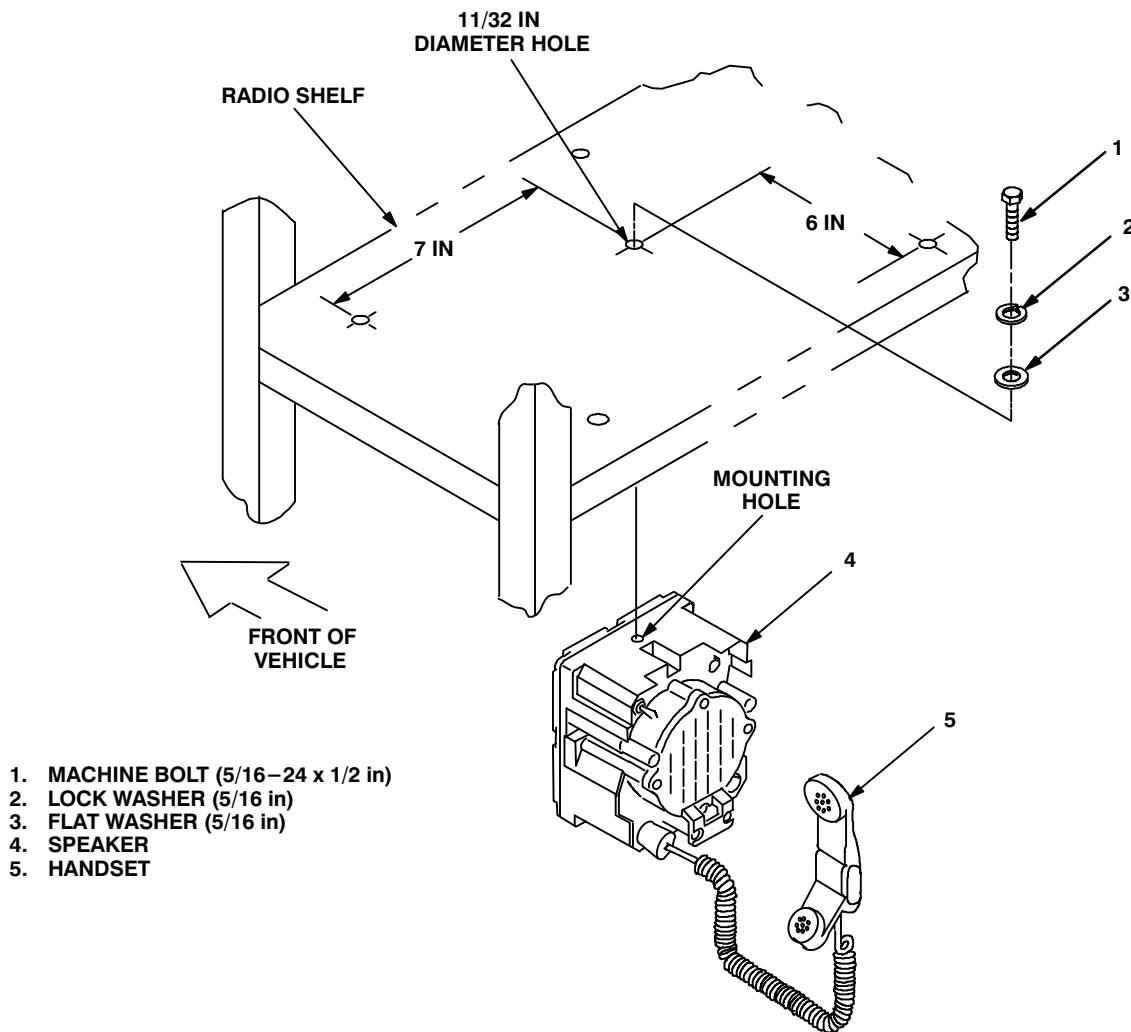

Figure 5–4. Rear Speaker Installation: Communications Rack
a. Mounting base (1) and existing radio shelf.	Remove a 2” area of paint on the underside of mounting base (1) around left front and rear mounting holes. Remove a 2” square area of paint on the existing mounting holes that mate with left front and rear mounting holes of mounting base (1). Clean the paint removed areas and apply a thin coat of conductive anti–seize compound.	Tools: Electric grinder or equivalent.
b. Mounting base (1).	Place on radio shelf. See Figure 5–5.
c. Two outer thumbscrews (4).	Turn ccw until both sets of threads have cleared center of holes.
d. Mounting base (1).	Align four holes and rear slot with matching hole pattern in shelf.
e. Five machine bolts (6), ten internal/external–toothed (IET) washers (3) and five nuts.	Install and secure to mounting base (1) and shelf..	Tools: 1/2 in socket and 1/2 in open/box wrench.
f. Two outer thumbscrews (4).	Tighten and secure to rim clenching clamps (5) and mounting base (1).
c. RF cable (12).	Route up side and behind communication rack to rear of mounting base (11). See figure 5–8 (1).
d. RF cable (12) connector P2.	Position on top of mounting base (11).